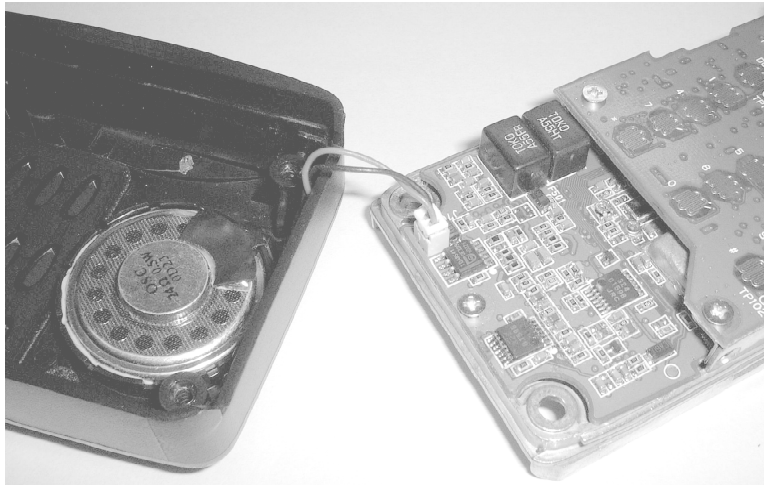

Figure 2-4
9. Remove the speaker connector, which connects between RF Board and the internal speaker on front cover (see “Figure 2-4”).